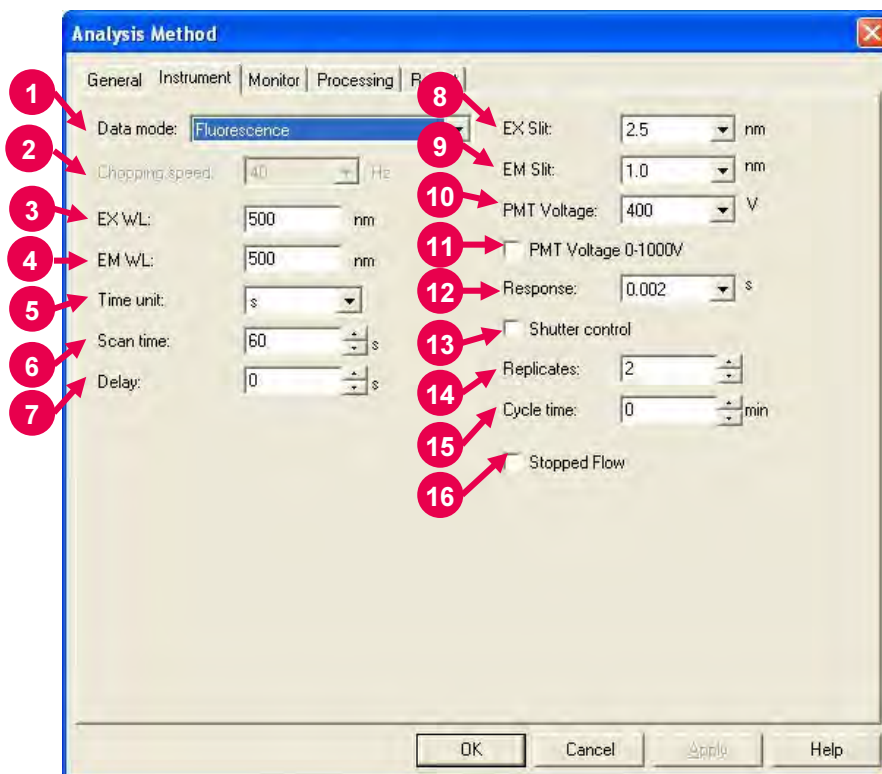

Fig. 3-4 Instrument Tab
3.2.2 Instrument Tab This window appears when Time scan is specified for Measurement at the General tab on the Analysis Method window. When you click the Instrument tab, the window in Fig. 3-4 appears. For the settable range of each parameter, refer to Appendix G.